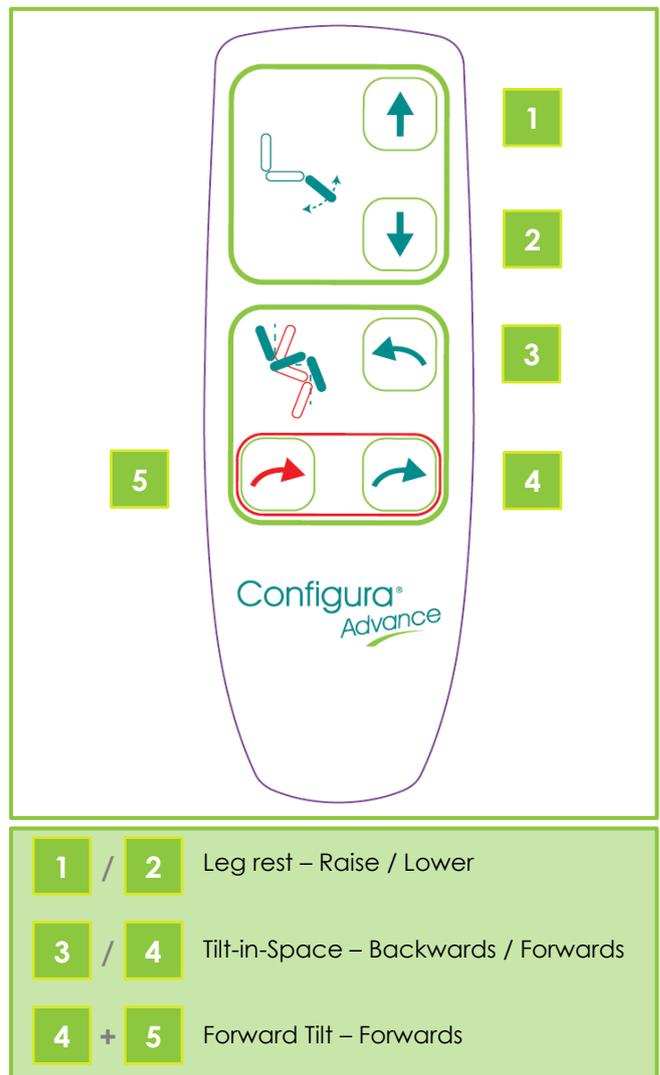

Figure 28 – Handset controls
2. **Electric Tilt-in-Space** – The tilt-in-space position can adjust the seat angle from 7 degrees to 37 degrees from the horizontal position. The buttons marked 3 and 4 on Figure 28 are used to adjust this angle.
3. **Electric Forward Tilt** – The chair can tilt forwards from 7 degrees normal tilt to 10 degrees of forward tilt using the buttons marked 3, 4 and 5 on Figure 28.
4. **Electric Leg rest** – The leg rest can be adjusted between 75 degrees and 160 degrees. The buttons marked 1 and 2 on Figure 28 are used to adjust this angle.
2. Using the handset press and hold the button marked 3 on Figure 28 to increase the tilt-in-space angle.
3. Using the handset press and hold button 4 on Figure 28 to decrease the tilt-in-space angle.
4. Press buttons 4 and 5 shown on Figure 28 at the same time to enter the forward tilt position.
5. To exit the forward tilt position, press button 3 shown on Figure 28.
The electric forward tilt function can be switched off or on by pressing buttons 1 and 5 shown on Figure 28 simultaneously for 5 seconds. When this function is toggled off, the chair won't perform forward tilt when pressing button 4 and 5.
2. Using the handset, press and hold the button marked 1 on Figure 28 to raise the leg rest. To lower the leg rest, press and hold button 2 on Figure 28.